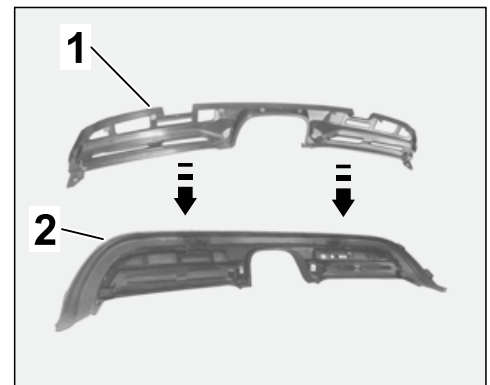

Figure 37
- 6.7 Clip lower holder ⇒ *Figure 37 -1-* and rear skirt ⇒ *Figure 37 -2-* together.